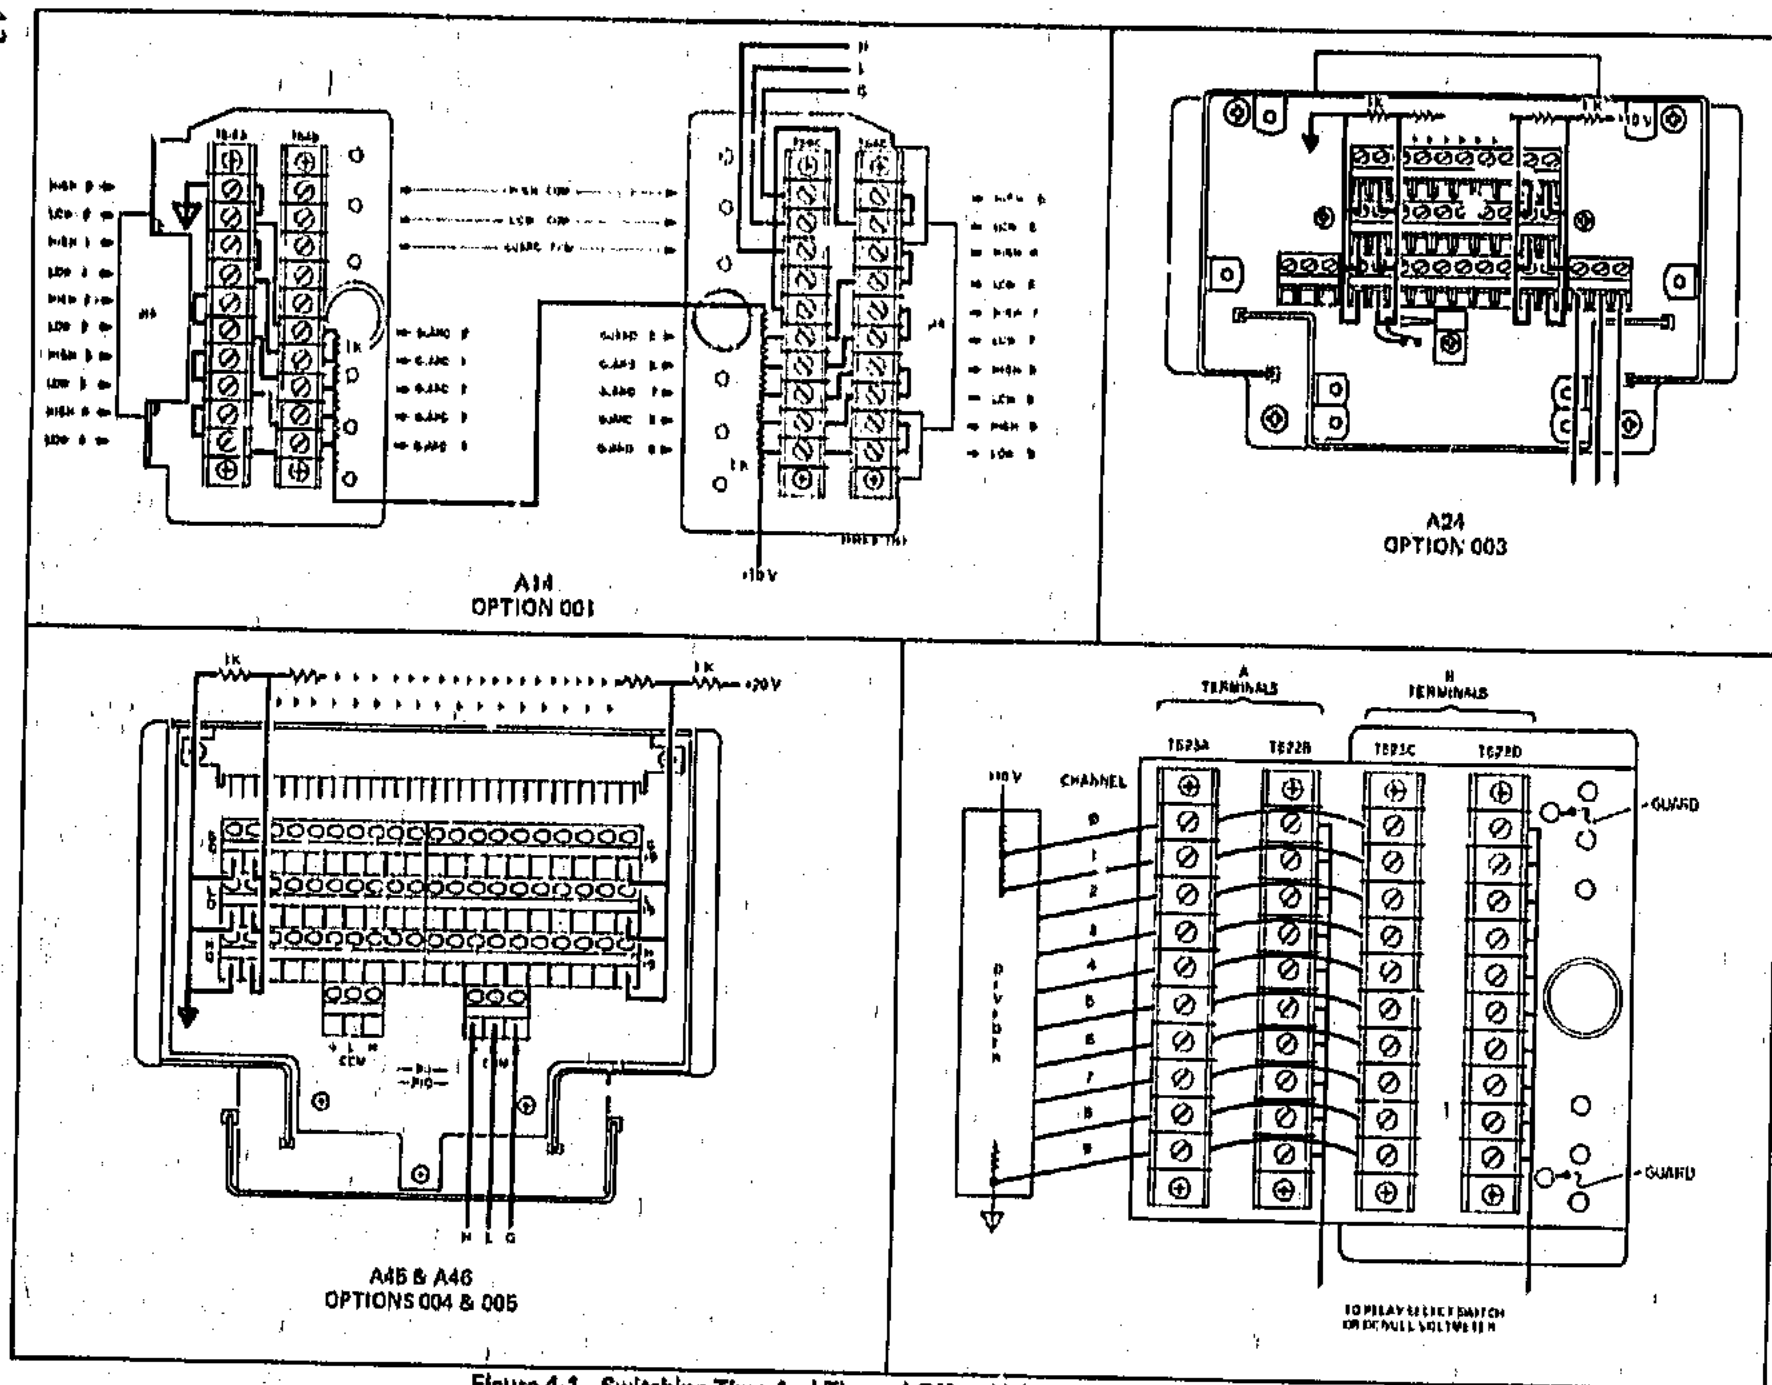
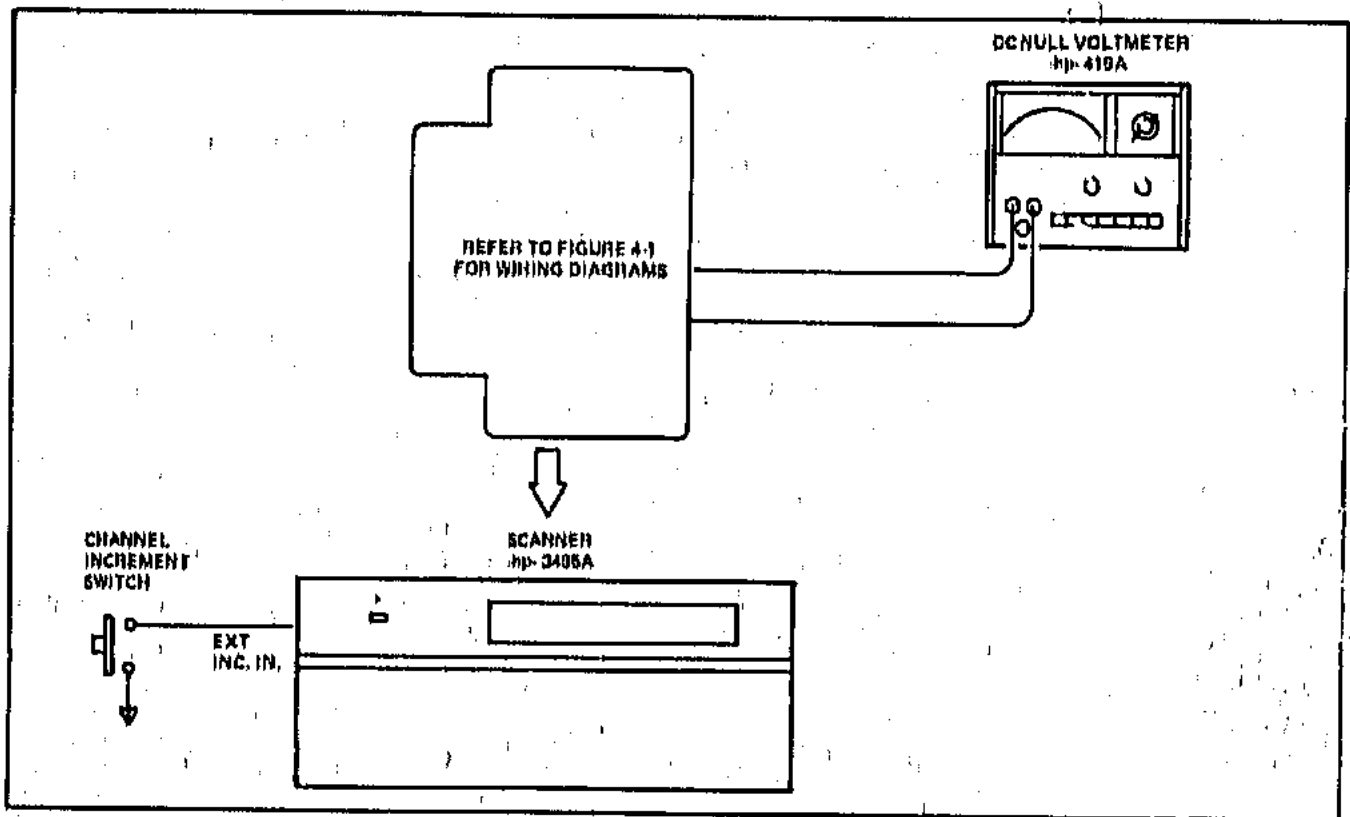

Figure 4-1. Switching Time And Thermal Offset Voltage Test Wiring Diagrams.
Figure 4-4. Thermal Offset Voltage Setup.
- Wire the divider network as shown in Figure 4-1.
- Connect the test setup as shown in Figure 4-4. The connector wiring in Figure 4-1 can be used for this test also.
- Repeat Steps b through f for all channels to be tested. The actuator channel measurements require rewiring the connector for each channel measured, unless common connections are wired as in Figure 4-1.